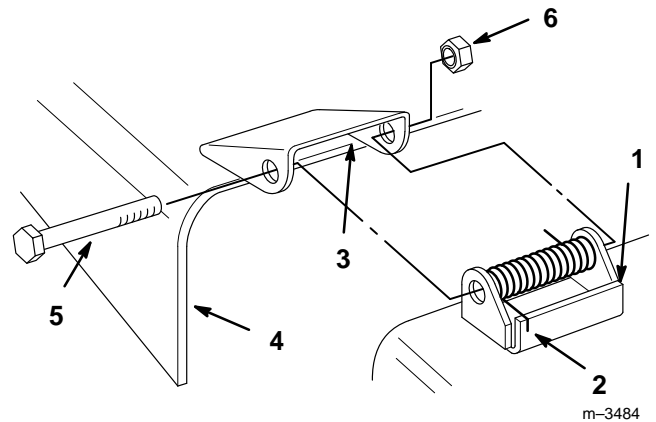

Figure 1
1. Place the springs into the brackets on the mower with the hooked ends over the raised back of the bracket (Fig. 1).
2. Align the discharge chute with the holes in the brackets and the spring straight ends in the space under the hinge and above the chute (Fig. 1).
3. Secure the chute to the bracket with bolts through the discharge chute, springs and brackets. Secure with lock nuts (Fig. 1).